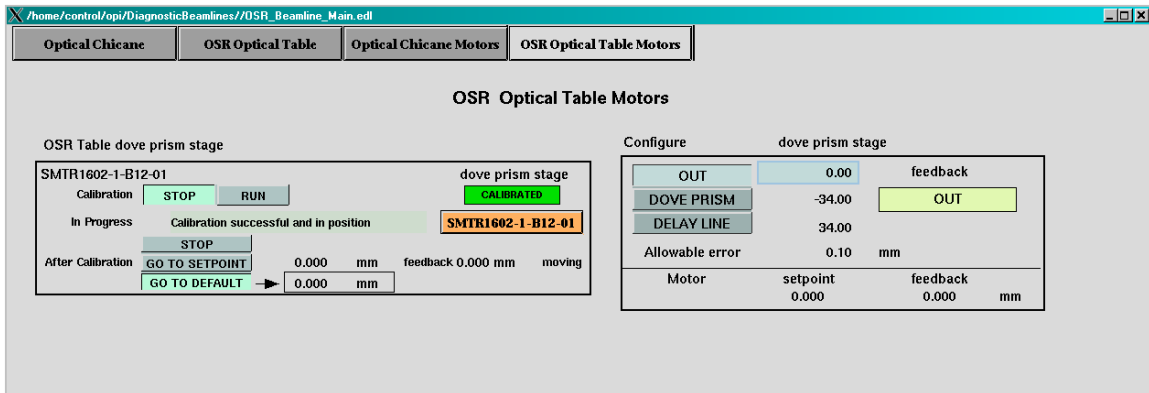

Fig. 5: The OSR Optical Table Motors control screen.
Click on the **OSR Optical Table** tab. The window shown in Fig. 4 will open. Verify that the dove prism stage indicates **CALIBRATED**. If not, click on the **OSR Optical Table Motors** tab (see Fig. 5) and click **RUN**.
For a proper measurement of the beam size and position, it is important to subtract the background light. To start this background subtraction, close the table photon shutter (see Fig. 5) and click “**Ultracal**” in the Spiricon window. Open the table shutter again when the background measurement is finished (after a few seconds).
- Select the M=4 lens (see Fig. 5).
- Reduce the optical density of the neutral density filter (see Fig. 5) until an image of the beam appears.
- Select the M=1 lens (see Fig. 5).